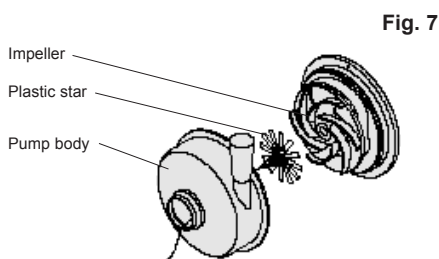
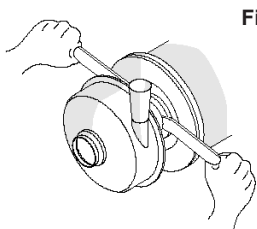

Fig. 7
Fig. 8
13. Lay the plastic star against the impeller (fig. 7).
14. Fit the pump body (item 1a) with the clamp ring (item 9a).
15. Push the shaft (item 11) forward until the impeller (pos 4) is touching the plastic star (fig. 8).